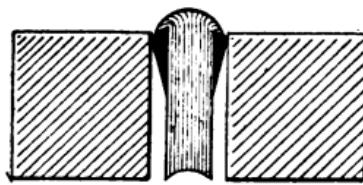

Fig. 36.—Book and Backing Boards in Lying Press.
35) until the back has become solid, smooth, and well curved; it must also overhang the backing boards so as to form a well-defined groove on each side for the reception of the cover boards. At this stage of the operations the book should present in section the appearance shown in Fig. 36, where, however, for clearness, the grooves are somewhat exaggerated.